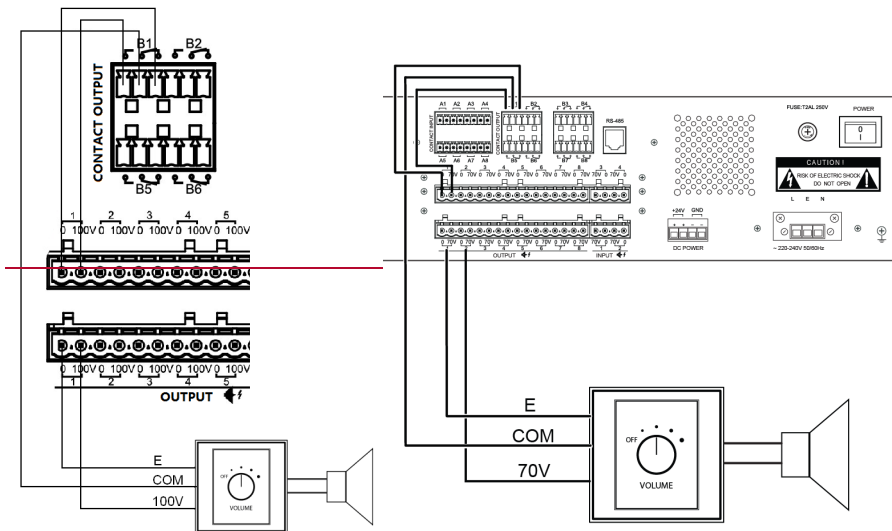

Figure 18 Schematic Diagram of the DCS and Three-Line Volume Controller Connection
3. Connect the external equipment or switch to the other end of the dry contact output cable. Figure 18 is schematic diagram of the DCS and three-line volume controller connection. Figure 19 is schematic diagram of the DCS and four-line volume controller connection.